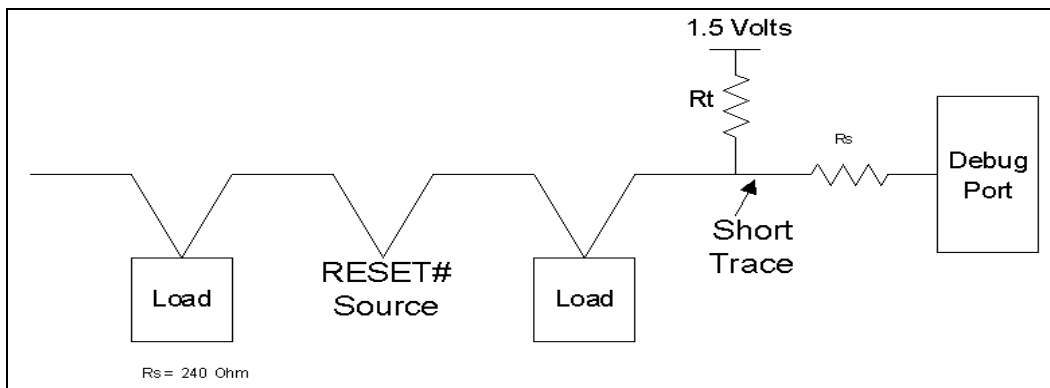

Figure 30A. AGTL+ Signal Termination
2. Termination should include series (~240Ω) and AGTL+ termination (connected to 1.5V) resistors. See Figure 30A.
In general, all open drain AGTL+ outputs from the system must be retained at a proper logic level, whether or not the debug port is installed. RESET# from the processor system should be terminated at the debug port, as shown in Figure 30A. R_t should be a 150Ω on RESET#.